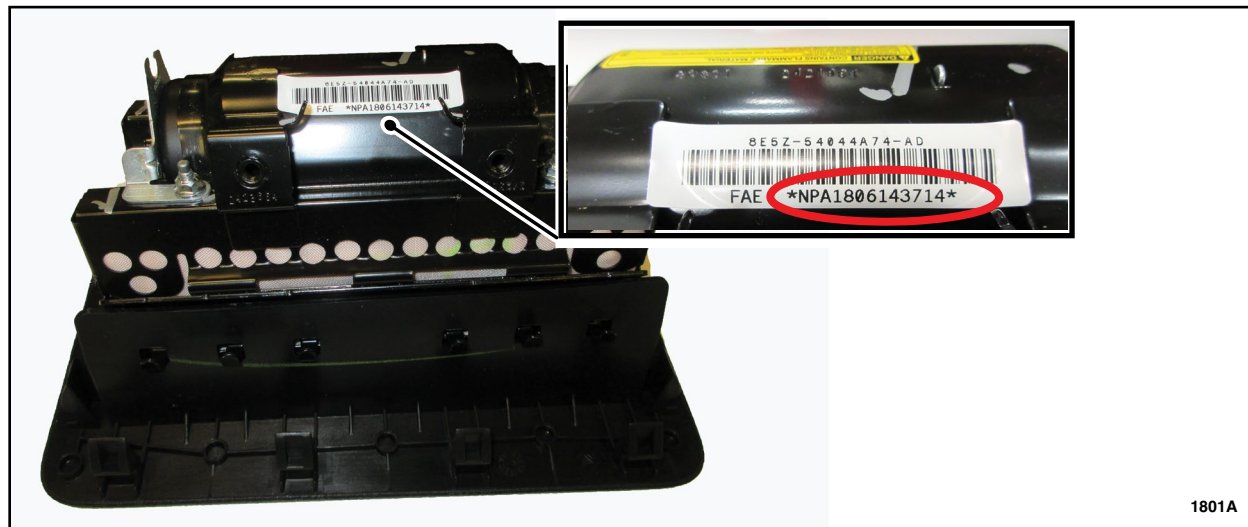

FIGURE 1
1. Record the 13 character serial number of the new airbag module on the repair order. See Figure 1.